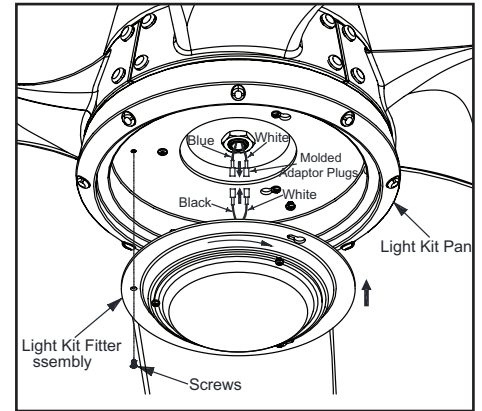

Figure 16
3. Remove one screw from the light kit pan and loosen, but do not remove the other two screws. Connect the wires from the light kit fitter assembly to the wires from the fan motor assembly by connecting the molded adaptor plugs together. Carefully tuck all wires and splices into the switch cap. (Figure 16)
4. Push the light kit fitter assembly up so that the two loosened screw heads fit into the keyhole slots. Turn the light kit fitter assembly clockwise, tighten the screws. Re-install the screw that was removed in step 3 and tighten firmly. (Figure 16)